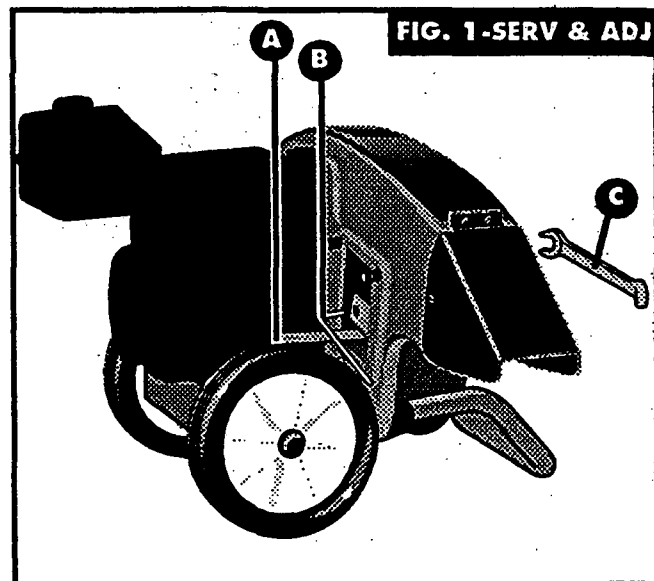

FIG. 1-SERV & ADJ
- Prevent the impeller assembly from turning in a counterclockwise direction by wedging a block of wood between one of the fan blades and the wall of the housing or, insert a thick, hardwood dowel (item A) through the slot below the blade and into the Chipper chute opening in the wall of the housing. (See FIG. 1-SERV & ADJ).
- Remove the blade, using a 3/16" allen wrench (item B) on the outside of the blade and 1/2" wrench (item C) on the impeller assembly (inside the housing) (See FIG. 1-SERV & ADJ.).